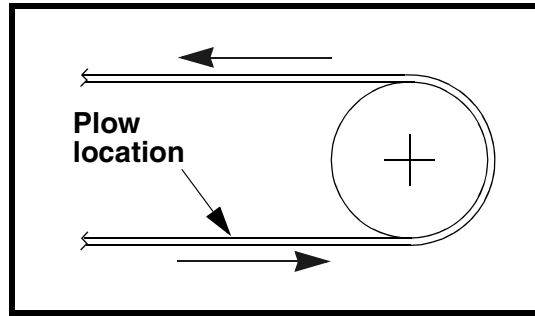

Figure 1. Locating Plow on Belt
1. Locate plow on return side of conveyor belt before tail pulley where belt is taut or supported by idler. (See Figure 1.)